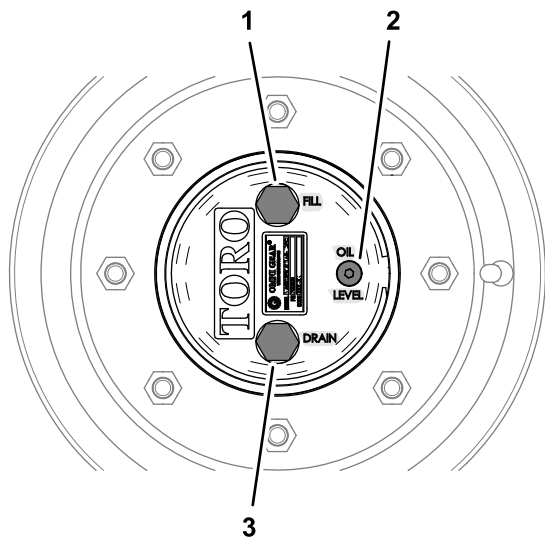

Figure 85
1. With the machine on a level surface, position a wheel so that the fill plug is at the highest (12 o'clock) position and the drain plug is at the lowest (6 o'clock) position (Figure 85).
1. With the machine on a level surface, position a wheel so that the fill plug is at the highest (12 o'clock) position and the drain plug is at the lowest (6 o'clock) position; refer to Figure 85 in Checking the Planetary-Gear-Drive Lubricant (page 63).